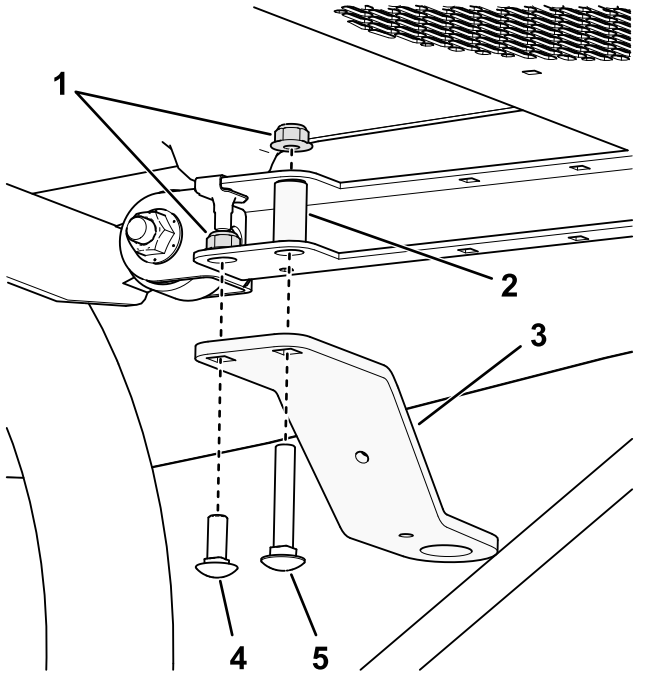

Figure 7
1. Install the beacon mount bracket to the sunshade as shown in Figure 7.